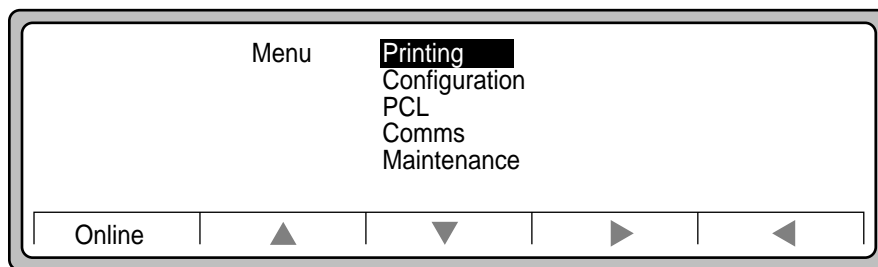

Figure 3-17 Menu options
6. Press Menu on the Main Screen to display the Menu options, shown in Figure 3-17.